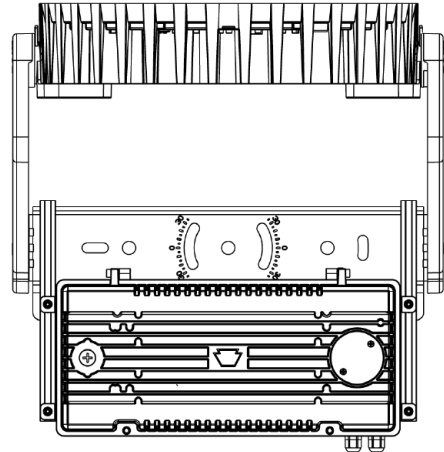

Figure 2
- Slide the driver box along the guide rails until the entire support bracket is visible, as shown in Figure 2. Once in place, tighten the (4) M6 nuts.